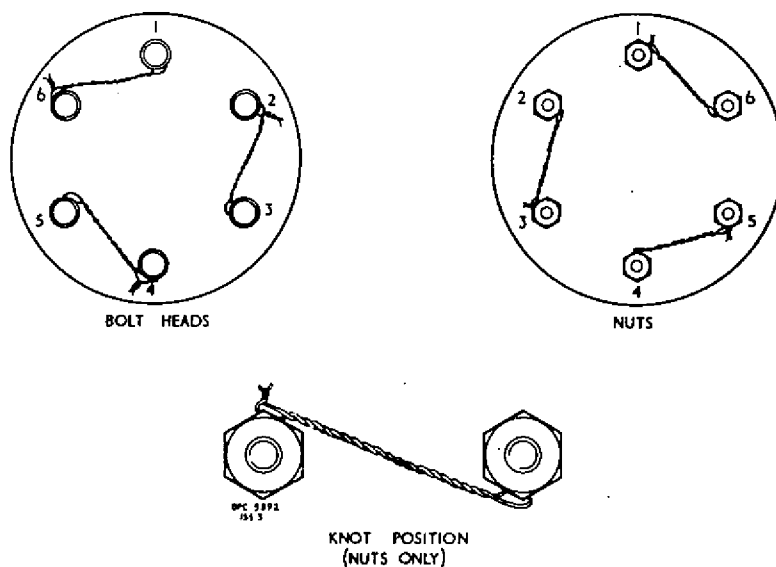

Fig.3 Lockwiring of sleeve bolt heads and nuts
(4) Examine the steel sleeve for security and corrosion. Check the steel sleeve securing bolts for looseness; if any bolt is found to be loose proceed as detailed in para.14, Repairs.
(5) Check that the heads of the steel sleeve retaining bolts and nuts are lockwired together in pairs (refer to fig.3). The pairs of nuts which should be wired together are those on the pairs of bolts with their heads wired together.